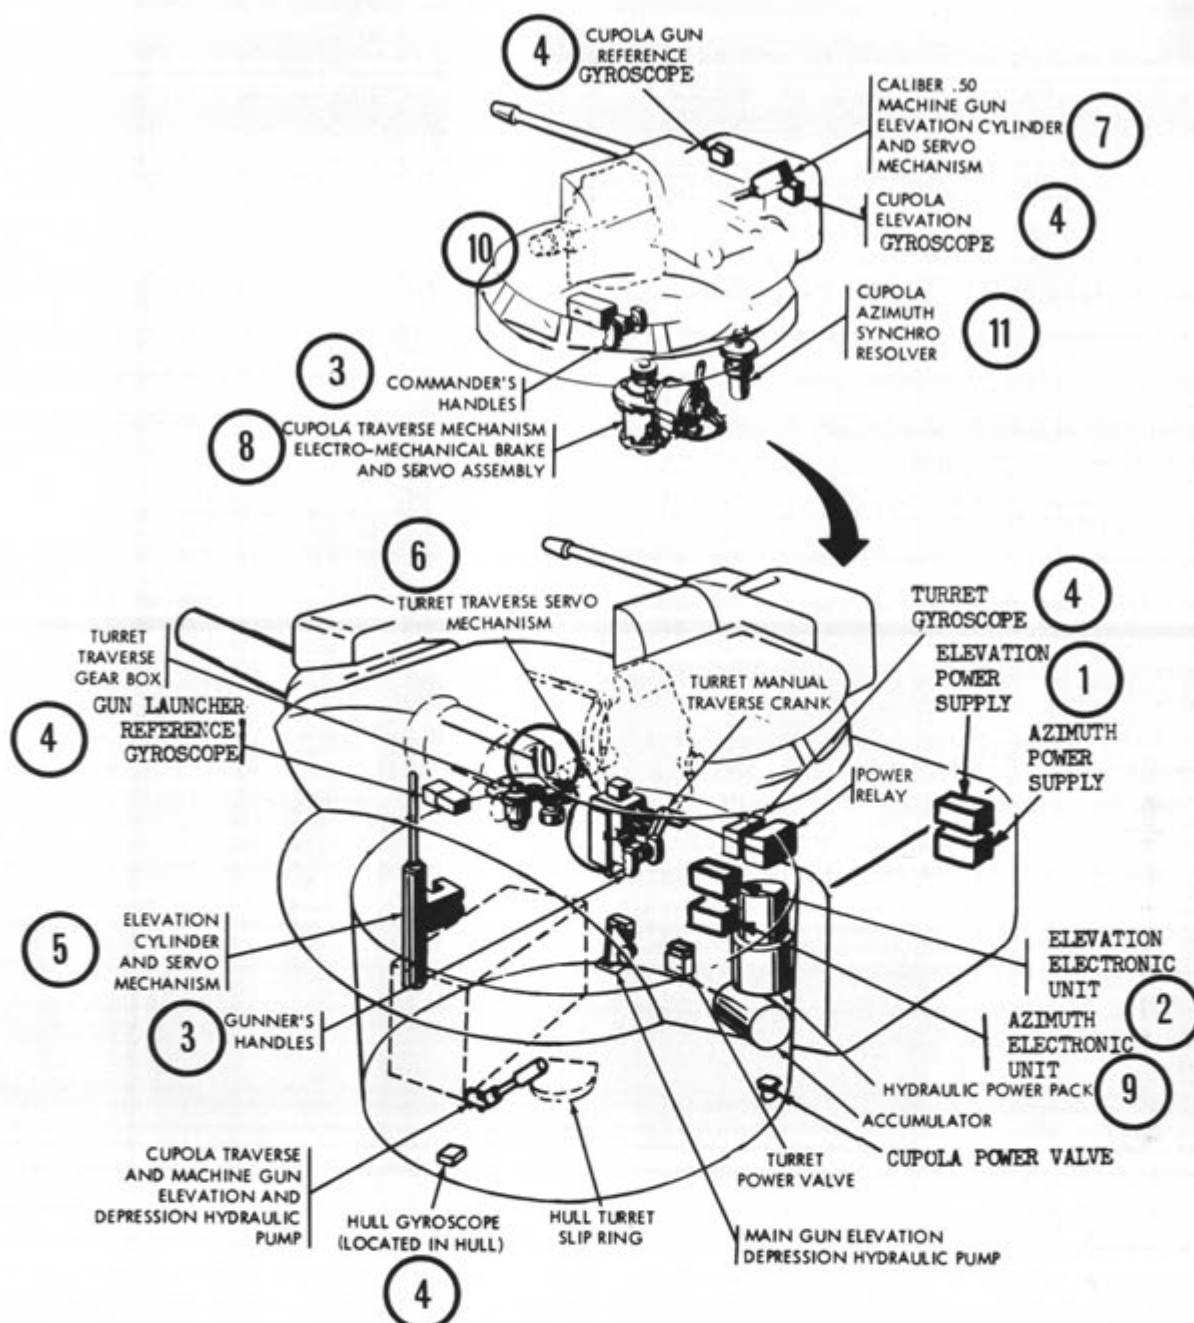

Figure 1. Turret-cupola stabilization system
Figure 1 is a diagram of this turret-cupola stabilization system. The details of the commander's station are shown at the top. Starting in the turret bustle, two power supply units (1) drive the two electronic packages (2) which are the hearts of the system, one for elevation and one for azimuth. As the gunner positions the main gun or the commander positions his *M85* machine gun using their respective periscopes and control handles (3), memory circuits in the electronic packages note the position of the main gun or the commander's machine gun. Any subsequent movement from this space orientation is measured by gyroscopes and rate sensors (4) positioned throughout the vehicle. These generate signals to the electronic packages (2) which, in turn, command elevation and traverse servo mechanisms to move the main gun or the commander's machine gun to keep them on their original space orientation.